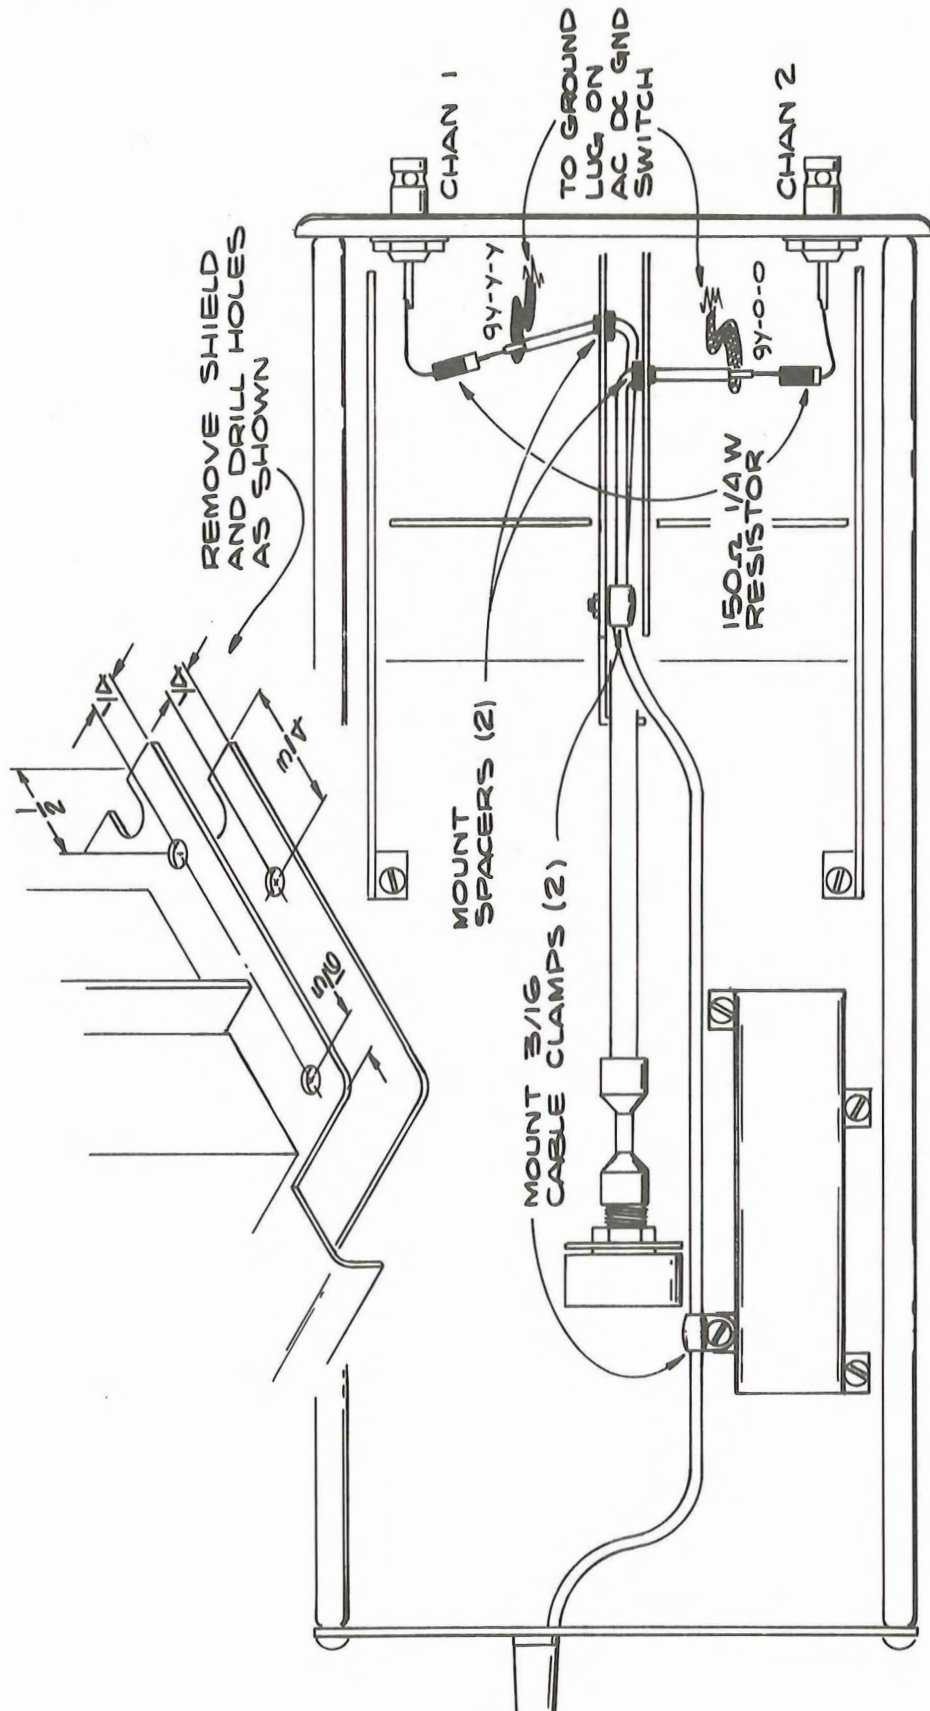

Fig. 5 3A1, 3A6
Refer to Figs. 5, 6, and 7.
- ( ) Drill three 5/32 in. holes in the shield as indicated in Fig. 5.
- ( ) Mount a 3/16 in. cable clamp (from kit) in the rear-most of the holes drilled in step A-3 or A-4 (see Fig. 5). Use a 6-32 x 5/16 PHS screw, flat washer and Keps nut from the kit.
- ( ) Mount a 3/16 in. cable clamp (from kit) under one delay line cover mounting screw, as shown in Fig. 5. Use a new 6-32 x 5/16 PHS screw and a flat washer from the kit.